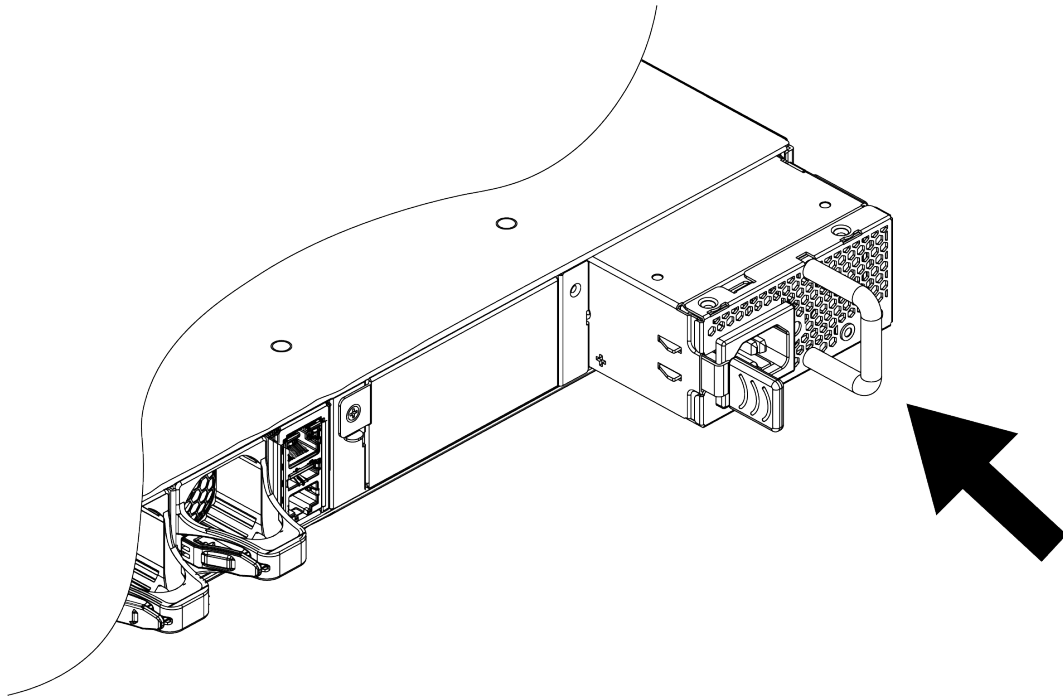

Figure 50: Installing an ExtremeSwitching 2000 W AC Power Supply
6. Carefully slide the power supply all the way into the power supply bay, as shown in Figure 50.